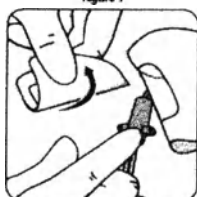

Figure 8
7. Secure the catheter with one hand and use your other hand to remove the device from the patient's skin. **Figure 8**